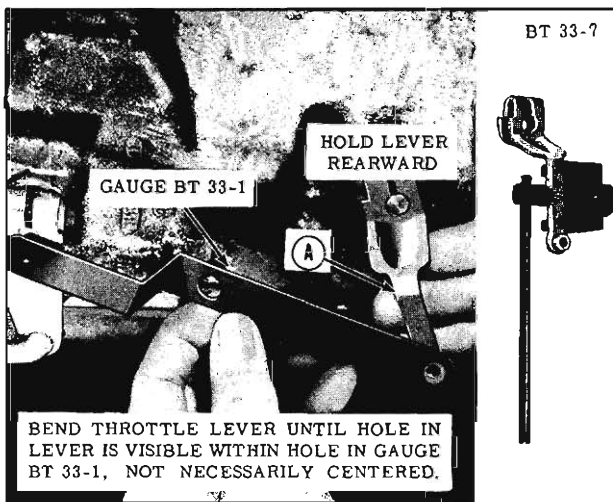

Fig. 6-125 Checking T.V. Lever Adjustment
- a. Raise car and remove lower T.V. rod from T.V. lever "A" at side of transmission. (Fig. 6-125)
- b. Place short end of T.V. lever Gauge BT-33-1 into manual lever shaft. While holding T.V. lever at the end of its rearward travel, the T.V. lever hole should be visible within the hole in the gauge. (Fig. 6-125)
- b. With T.V. bellcrank and transmission lower T.V. rod "B" held against their rearward stops, adjust lower T.V. rod clevis so that the pin will enter freely into holes in clevis and T.V. bellcrank. (Fig. 6-125)